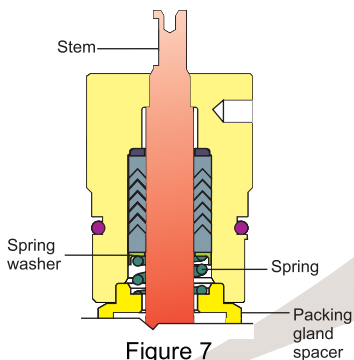

Figure 7
5. Once all packing ring seals are in place, fit spring washer with spring on top. Place packing gland spacer on next. Spring should easily fit on spacer. (See figure 7)